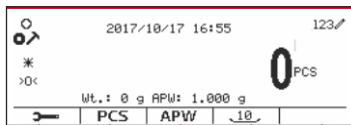

Figure 40
1. Press the  button until the icon corresponding to Counting is displayed on the screen. The default (or last) Average Piece Weight (APW) is displayed. (See Figure 40)